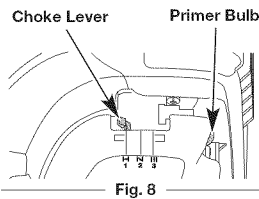
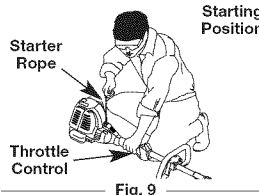

Fig. 8
Fig. 9
WARNING: Avoid accidental starting. Make sure you are in the starting position when pulling the starter rope (Fig. 9). To avoid serious injury, the operator and unit must be in a stable position while starting. Make sure that any Add-On item is installed correctly and secure before starting the unit.
3. Fully press and release the primer bulb **10** times, slowly. Some amount of fuel should be visible in the primer bulb (Fig. 8). If fuel cannot be seen in the bulb, press and release the bulb until fuel is visible.
4. Move the choke lever to **Position 1** (Fig. 8).
5. Crouch in the starting position (Fig. 9). **SQUEEZE and HOLD the throttle control for ALL further steps.** Pull the starter rope **5** times.
6. **Continue to squeeze the throttle control.** Move the choke lever to **Position 2** (Fig. 8).
9. **Continue to squeeze the throttle control.** Move the choke lever to **Position 3** (Fig. 8).
5. Crouch in the starting position (Fig. 9). Place the electric starter or Power Start Bit™ into the back of the unit (Fig. 37). Refer to the *Operation* section of the Electric Starter or Power Start Bit™ operator's manual.
6. **SQUEEZE and HOLD the throttle control for ALL further steps.** Press and hold the electric starter or drill ON (I) button for 2 seconds.
7. **Continue to squeeze the throttle control.** Move the choke lever to **Position 2** (Fig. 8).
8. **Continue to squeeze the throttle control.** Press and hold the electric starter or drill ON (I) button for 2-second intervals until the unit starts.
11. **Continue to squeeze the throttle control.** Move the choke lever to **Position 3** (Fig. 8).